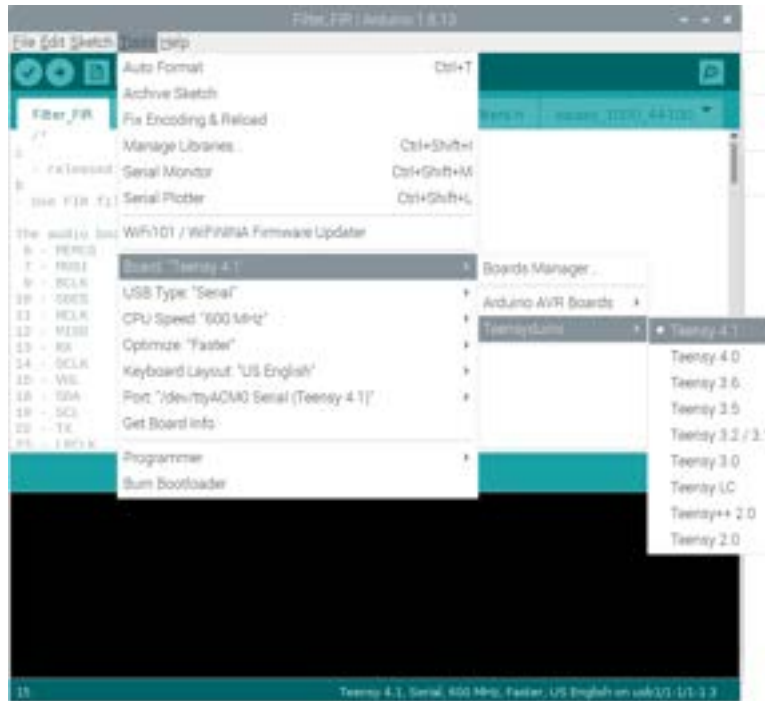

Figure 4: Selecting Teensy 4.1 board
- Now go to **Tools** → **Board** → **TeensyDuino** → **Teensy 4.1** as shown in Figure 4.